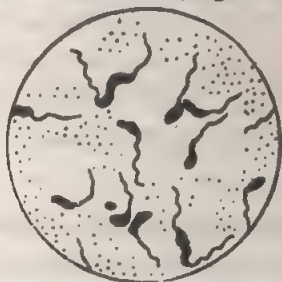

Fig. 8.4 Germs of Cholera
(3) **Cholera.** Causative agent is the bacterium (*vibrio cholera*). This bacterium has a single flagellum (Fig. 8.4).